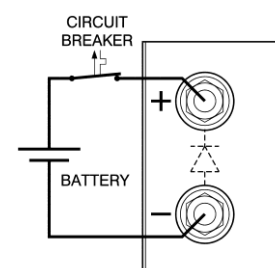

fig 5 - 8
Use a CIRCUIT BREAKER in series in order to protect the power supply from **accidental reverse connection** (see fig. 5 - 8). The circuit breaker should have a DC voltage rating twice the battery voltage. Use the very fast type (Z), a type meant for protecting semiconductors (see table 5 - 2).